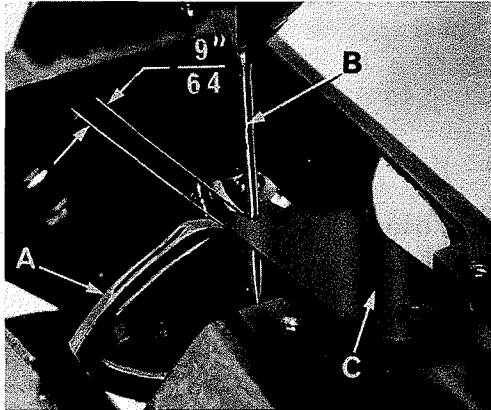
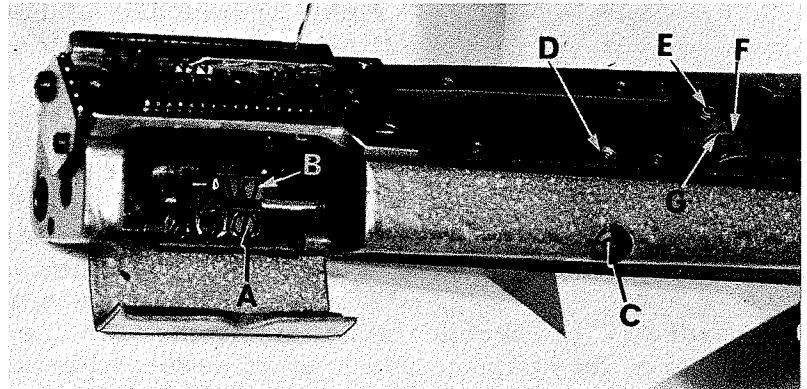
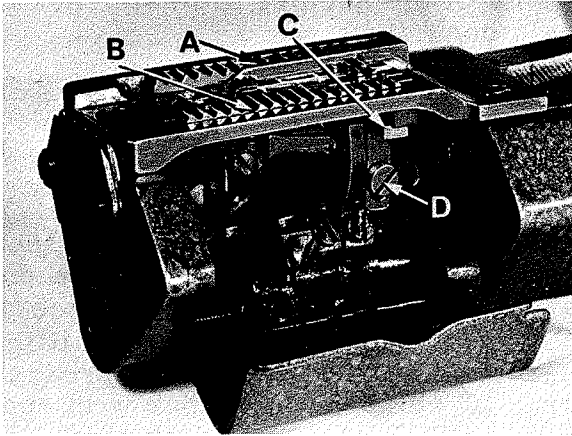

Fig. 5
Fig. 6
Fig. 7
Insert a new set of needles, type and size specified. Always adjust the looper (A, Fig. 5) for the left needle first. Set the looper so that the distance from the center of the needle (B) to the point of the looper (A) is  $9/64$  inch, when the looper is at its farthest position to the left. Looper gauge (C) No. 21225- $9/64$  can be used advantageously in making this adjustment. If adjustment is required, loosen screw (A, Fig. 6) in looper holder, permitting movement in either direction to obtain the  $9/64$  inch dimension as shown in Fig. 5. Retighten screw (A). Rotate handwheel in operating direction to assure that the looper point passes to the rear of the needle as close as possible without contacting, and the descending needle barely brushes the back of the looper. This adjustment can be made by loosening screw (B, Fig. 6) very slightly, so the looper can be moved in the holder, but rigid enough to retain its position while rotating machine through its cycle to attain the required movement, retighten screw. Always check the  $9/64$  inch looper gauge setting after setting the looper to the back of the needle, and conversely, always check the setting of the looper to the back of the needle after setting the  $9/64$  inch looper gauge.
Before assembling the main and differential feed dogs, set the feed bar eccentric pin (C, Fig. 6) located in the left side near center of cylinder, so that the slot in the head is in a horizontal position. This assures a neutral position of eccentricity for the purpose of raising or lowering the height of the main and differential feed bars simultaneously. The feed bar pin is retained in position by set screw (D). Assemble the differential feed dog (A, Fig. 7), main feed dog (B) and throat plate. Both the main and differential feed dogs can be individually adjusted to height due to having elongated slots for their attaching screws. The main feed dog at its highest position, should be set to project above the throat plate, slightly more than the depth of its teeth. The differential feed dog may then be leveled with the main feed dog. Tighten the attaching screws securely.
Should the main feed dog require repositioning due to contact with the throat plate in its forward or rearward travel, loosen set screw (E; Fig. 6) in main feed bar driving link (F) rotate main feed bar eccentric driving stud (G) as required. Driving stud (G) has a thin hexagon head with cut-outs on two of the flats allowing movement by tapping with a sharp pointed tool when a thin open end wrench is not available. Whenever the main feed bar eccentric driving stud position has been changed, re-check rear needle guard setting, adjustment may be required. Retighten set screw (E). Position main feed dog support (C, Fig. 7) flush against bottom of main feed dog (B), tighten support screw (D) securely.